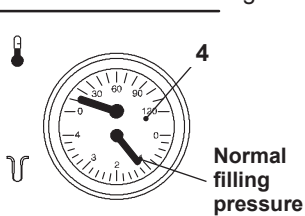

Fig. 2.2
Ensure that the C.H. circuit is regularly filled with water (even if the boiler is only used for D.H.W. supply) checking that the pressure indicated on pressure gauge 4 is not lower than that shown in Fig. 2.2.
If the pressure reading on the pressure gauge is below that shown in Fig. 2.2, then the system will require topping up. A filling loop is normally provided by the Installer for this purpose.
- Open the valves of the filling loop and watch the gauge until it reaches normal filling pressure as shown in Fig. 2.2.
You should check that the pressure on the temperature and pressure gauge (Fig. 2.2 on page 10) is not below the correct setting.